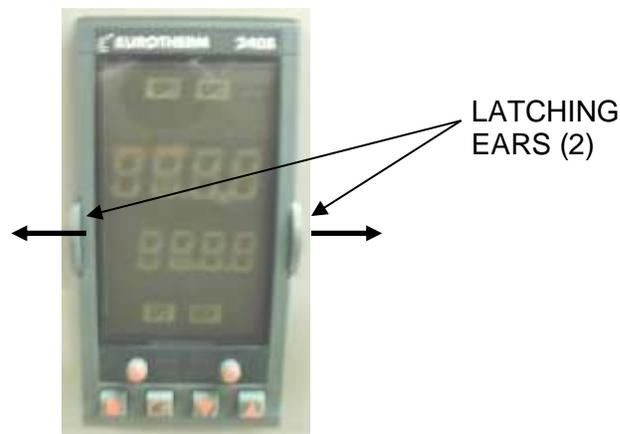

Figure A-1
2. Slide out Temperature Indicating Controller (P/N: 64008) from Control Box Assembly by gently pushing the indicated latching ears to the side (See Figure A-1).